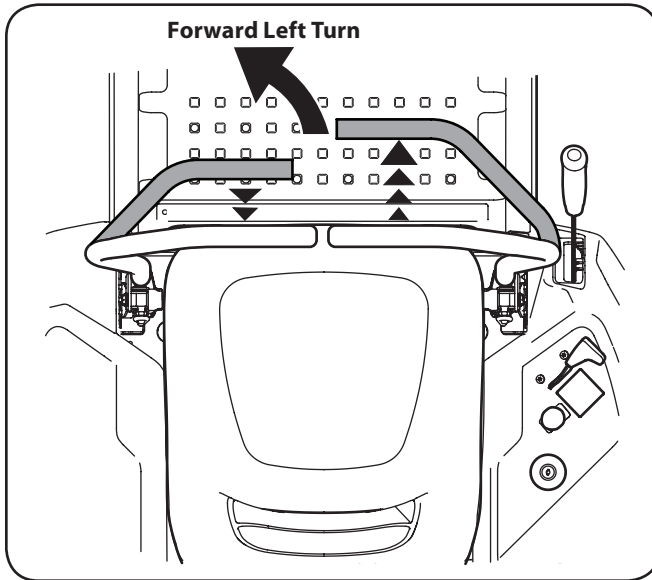

Figure 5-4
1. To turn to the left, move the left drive control lever rearward of the right lever. See Figure 5-4.